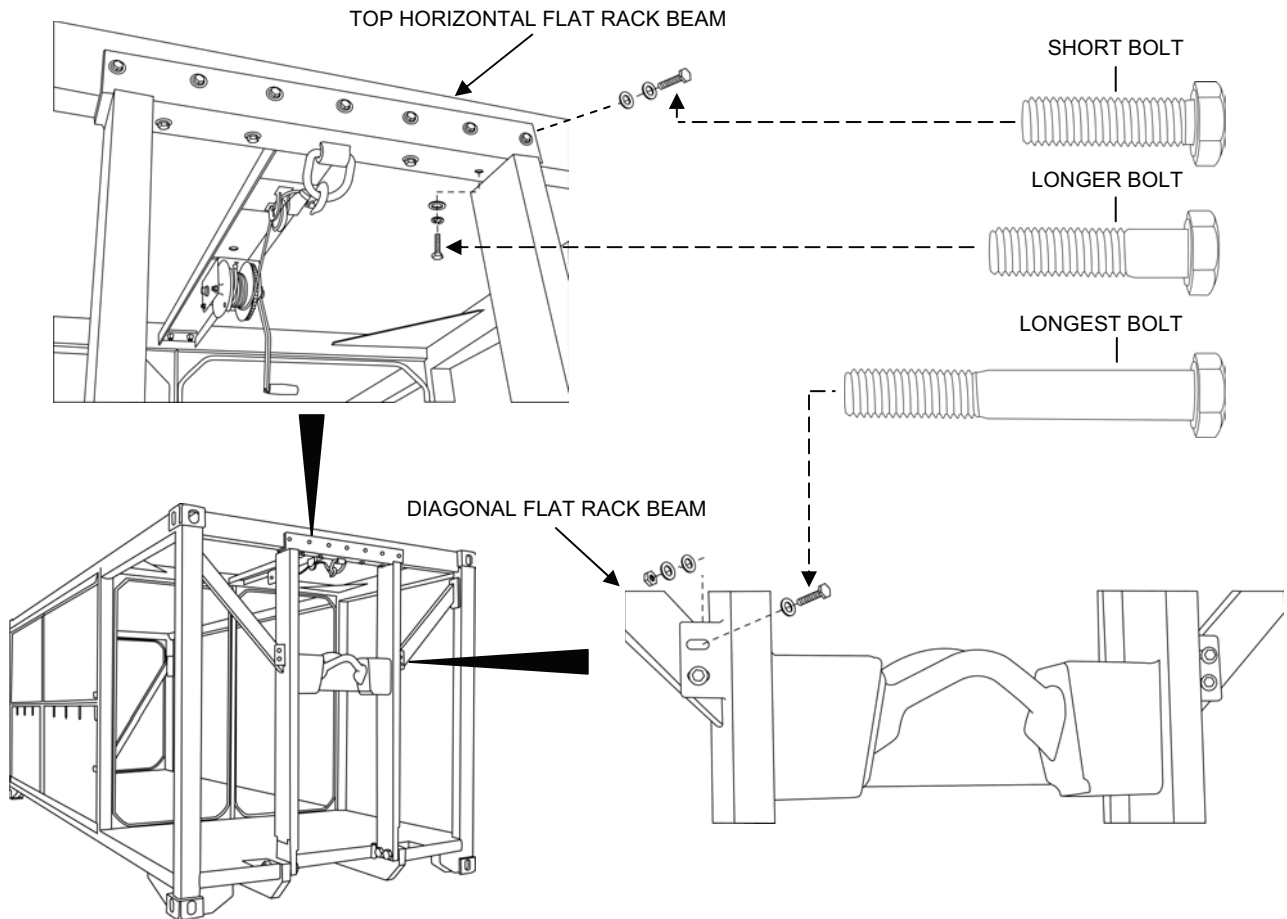

Figure 8. Correct Bail Bar Bolt Installation Locations.
- c. Separate the three different size bolts that are used to secure the middle of the bail bar to the diagonal beam of the flat rack and the top of the bail bar to the top horizontal flat rack beam (see Figure 8).